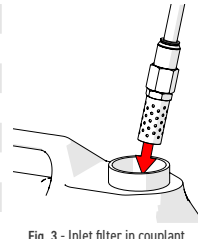

Fig. 3 - Inlet filter in couplant
2. Place the inlet filter (Fig. 2-8) into a reservoir of non-toxic, non-flammable couplant (Fig. 3). Ensure the opposite end of the inlet hose is connected to the motorized pump's inlet connection (Fig. 2-2).